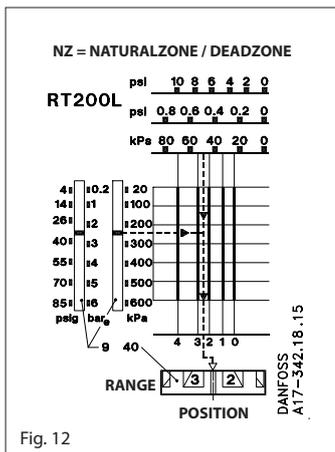

Fig. 12
The neutral zone,  $35 - 32 = 3$  m wg, corresponding to 0.3 bar, must be set on the neutral zone disc (40) fig. 8 page 9. According to the diagram fig. 12 the disc setting is 1 or just over. A more accurate setting can be obtained by using the test setup shown in fig. 14.